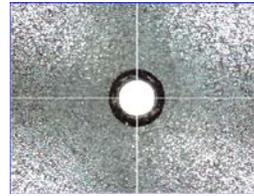

Figure 5-6: Camera Fiducial
- Click **Go To**. The Camera Window crosshairs should be centered on the center of the Camera Fiducial Marker, as pictured in Figure 5-6.